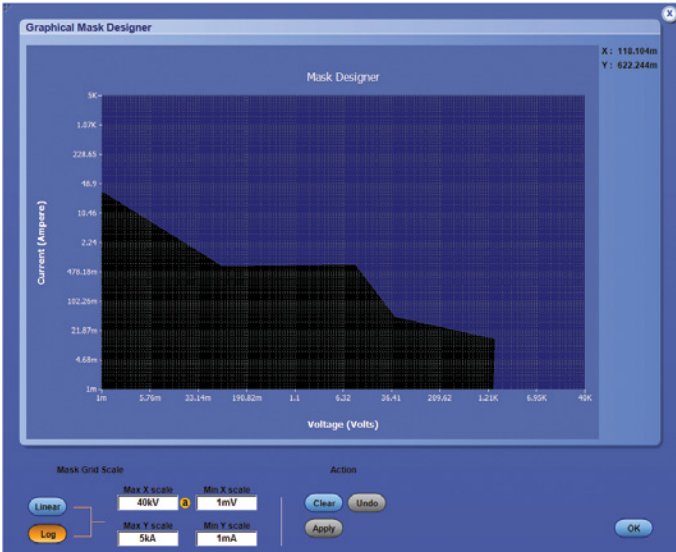

Figure 12. SOA Mask Editor window for DPOPWR. The X and Y Max. and Min. values are customizable.
- As shown in Figure 12, the SOA Mask editor sets up a mask based on the maximum and minimum voltage and current limits for the transistor, as defined in its datasheet. This enables the evaluation and comparison of the measured SOA of the transistor with the maximum limits defined by the manufacturer. If the data points fall inside the mask zone, they are green to indicate 'pass' and if they fall outside the mask zone, they are red to indicate 'fail'.